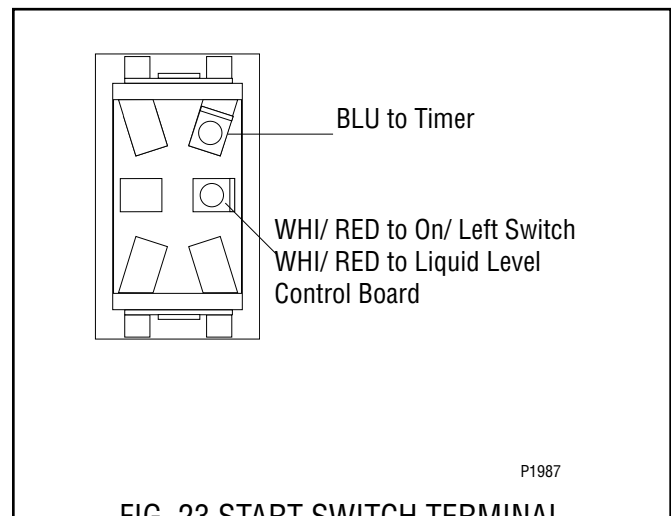

FIG. 23 START SWITCH TERMINAL
4. Refer to the FIG 23. When reconnecting the wires.